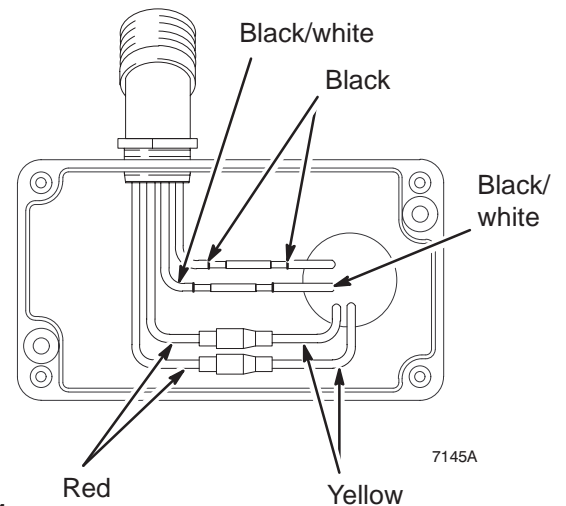

Fig 14
2. Remove motor shield (14) and front cover (31). Disconnect hose (132).
3. Remove outlet cover on pressure control wiring box. Disconnect four motor leads. See Fig. 14.
4. Unscrew conduit fitting (125) from motor and pull four motor leads from conduit (22).
5. Remove screws (51) from drive housing. Remove screws (21 and 30) from motor (1).
6. Tap rear of pump (39) with plastic mallet to loosen drive housing (18) from motor (1). Pull off drive housing.
- NOTE:** Do not drop the gear cluster (9), which may stay engaged in the motor bell or in the drive housing. Do not lose the thrust balls (10) or drop them between the gears. The balls usually stay in the shaft recesses, but they can be dislodged. If the balls are not in place, the bearings will wear prematurely.
7. Lower pressure control (130) by unscrewing motor mounting screws (37).
8. Lift off motor (1).
9. Mount and center new motor on frame and attach pressure control (130) with motor mounting screws (37).
10. Insert motor leads through conduit fitting (125) and conduit (22) to pressure control. Screw connector (125) two or three threads into motor. Tighten locknut up to motor. Connect four motor leads. See Fig. 14.
11. Liberally grease gear cluster (9) and pinion gear (G). Pack all bearings in motor bell. Be sure thrust balls (10) are in place.
12. Place bronze-colored washer (18b) and then silver-colored washer (18a) on shaft protruding from big gear in drive housing (18).
13. Align gears and push drive housing (18) straight onto motor bell (F) and locating pins.
3. Loosen outlet cover on pressure control wiring box and disconnect wires. See Fig 14.
4. Loosen black conduit (22) from pressure control fitting and pull out wires
5. Remove hose (132), 45° swivel union (131), check valve (42), and nipple (59) from rear of pressure control (130).
6. Remove hose (134) and 45° swivel union (131) from front of pressure control (130).
7. Support pressure control from falling(130) and carefully remove motor mount screws (37). Remove pressure control.
8. Install new pressure control (130) with screws (37).